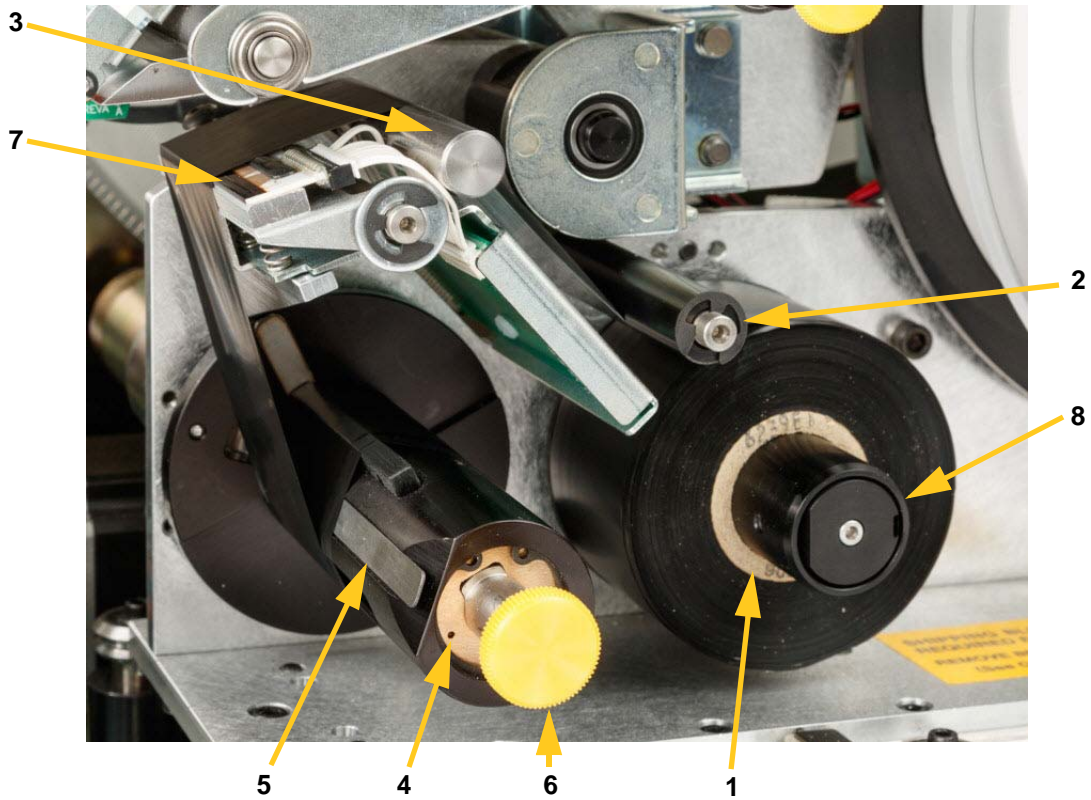

Figure 4-11. Ribbon Path Parts
If ribbon is currently loaded, remove it (refer to Figure 4-11 on page 21):
- Thread the ribbon under the guide roller and over the guide bar and printhead. See Figure 4-11 on page 21.
- Feed ribbon under the clip (A) as shown until approximately 1" of ribbon is past the clip.
Note: Make sure that the ribbon roll is installed flush to the back flange and routed as shown in Figure 4-11 on page 21.